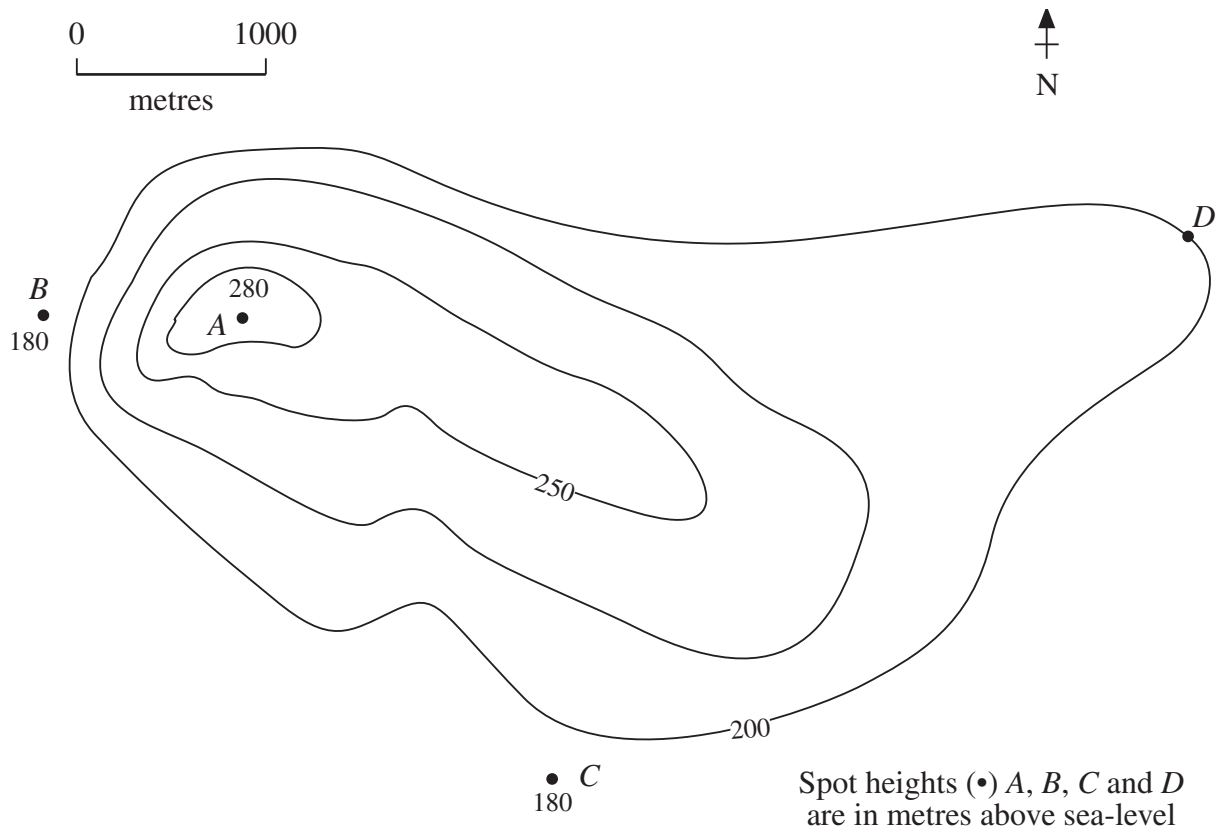

FIG. 5
- (b) The topographic map shown in Figure 5 has slopes indicated between the points *A* and *B*, *A* and *C*, and *A* and *D*.